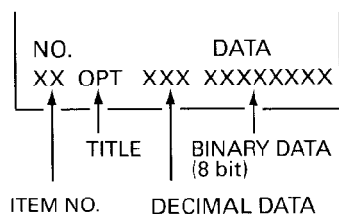

Figure 1. Service Menu Display
- While pressing the MENU key, reconnect the AC power cord. The Service Menu Display will now appear. (See Figure 1 below.)